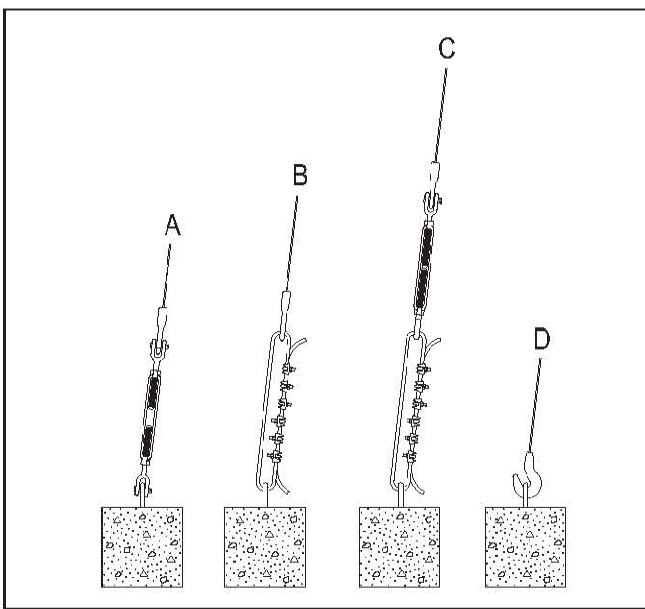
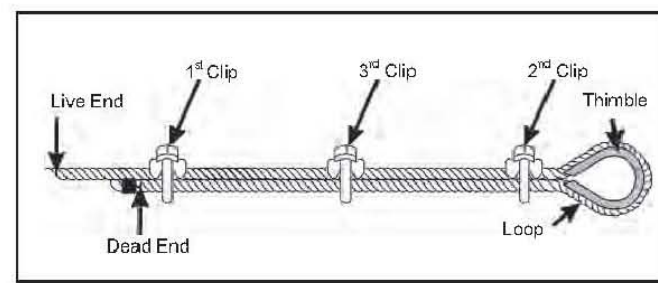
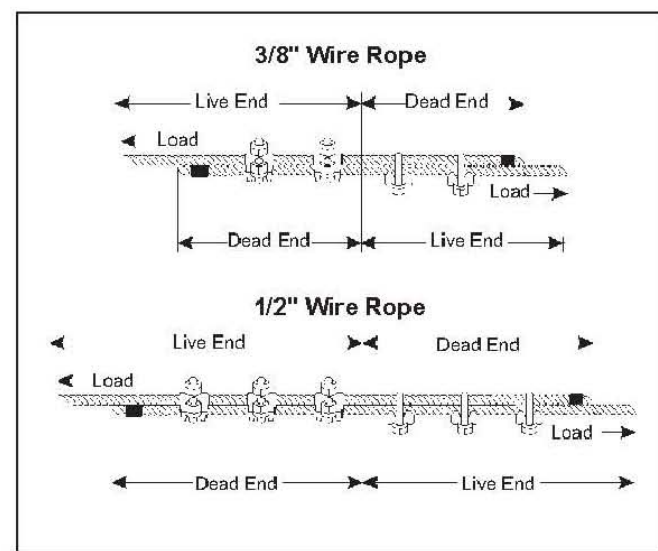

FIGURE 8-4
FIGURE 8-5
FIGURE 8-6
8.3.7. When connecting the end of an anchor strap to the anchor point, common methods are those shown in FIGURE 8-4: A) using a drop-forged turnbuckle, B) using a looped wire rope, C) using a combination of both A and B, and D) using the hook end of the strap.
8.3.8. If using a wire rope, refer to recommendations of wire-rope manufacturer and supplier, and follow accepted industry standards when selecting, using, attaching or connecting wire rope. See FIGURE 8-4, FIGURE 8-5 and FIGURE 8-6.
8.3.11. Apply the first clip at a distance from the dead end of the wire rope that is equal to the largest width of the clip used. See FIGURE 8-5.
8.3.12. For each clip, apply a U-bolt over the dead end of the wire rope. See FIGURE 8-5.
8.3.13. When only 2 clips are required, apply the second clip as close to the loop or thimble as possible. See FIGURE 8-5.
8.3.14. When more than 2 clips are required, apply the second clip as close to the loop or thimble as possible, turn nuts on the second clip firmly, but do not tighten initially. See FIGURE 8-5.
8.3.17.3. Place the rope ends parallel to each other and install the clips as shown in FIGURE 8-6.